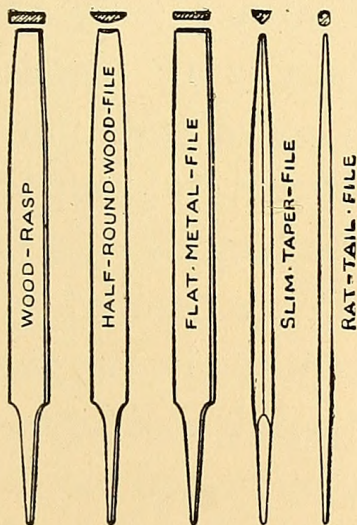

FIG. 33. — Five Handy
**Handiest Forms of Files** are shown in Fig. 33. The *wood-rasp* is a very coarse file for wood working, while the *rattail file*, the *slim taper file*, and the *flat metal-file* are made with finer teeth and are intended for metal work. A wood-file must not be used upon